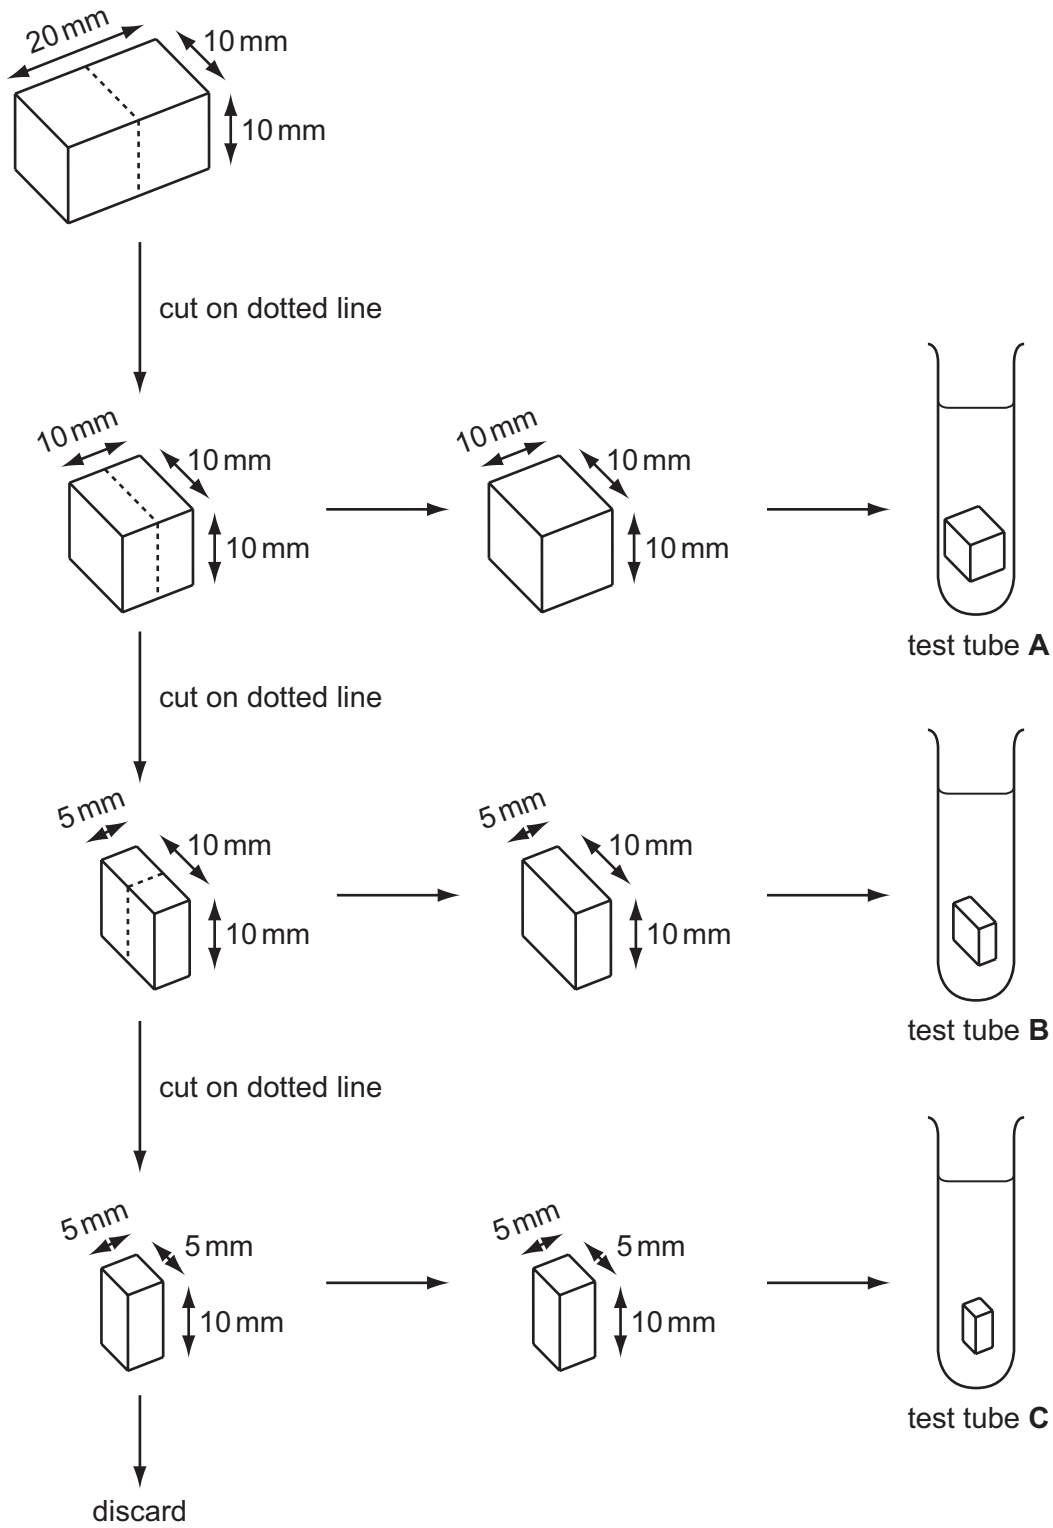

Fig. 1.1
- Cut the agar block in half, producing two blocks of size 10 mm x 10 mm x 10 mm (as shown in Fig. 1.1).
- Keep one of these blocks intact (this is block **A**) and cut the other in half again (as shown in Fig. 1.1).
- Keep one of these blocks intact (this is block **B**) and cut the other in half again. Discard one of these (as shown in Fig. 1.1.) The remaining block is block **C**.
- Using tweezers, drop each block into separate test-tubes (as shown in Fig. 1.1) as quickly as possible and start the stopclock.